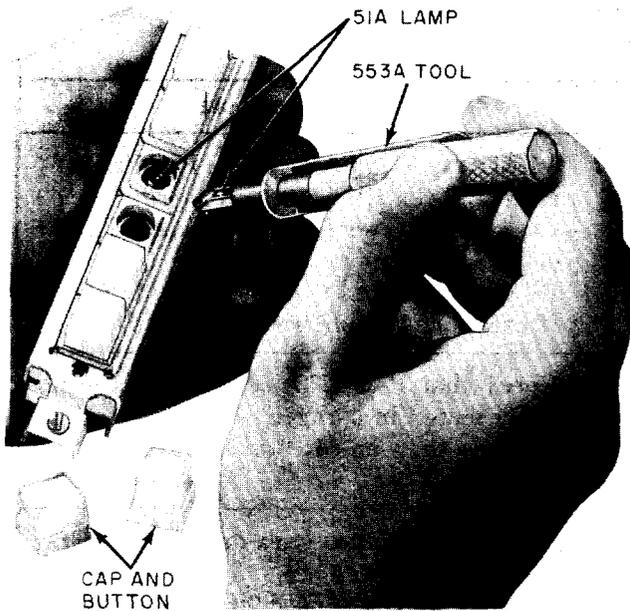

Fig. 1—Removing Lamp From 647-Type Key
**3.03** Refer to Table B and Fig. 1 and 2 for the most common maintenance information on the 647-type keys.
**3.06** To replace a button lamp, the collar must be removed before the button may be removed to gain access to the lamp. Use a 553A tool to remove the lamp (Fig. 1).